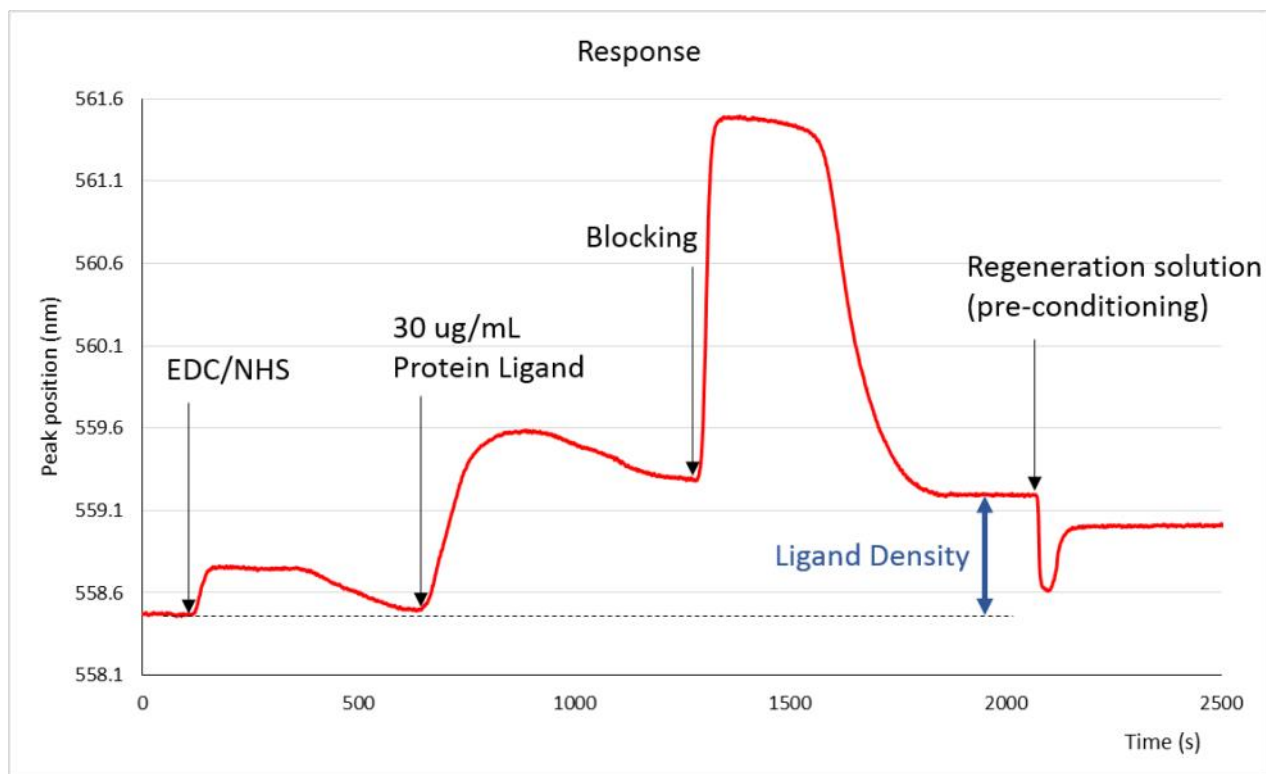

Fig 2. Example of COOH Sensor Chip protein ligand immobilization
- 9) You can measure the amount of ligand binding by comparing the signal before EDC/NHS activation to the signal after the blocking step is complete. In the example shown in Figure 2, it is approximately 700 pm.
- 10) If the optimal regeneration condition is known, it is recommended to perform an injection of the regeneration solution to precondition the ligand at a pump speed of 150 $\mu\text{L}/\text{min}$, as seen in Figure 2 (this is built into the template).